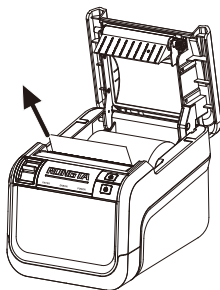

Figure 7
- 3) Pull the paper roll out beyond the tear knife (as shown in Figure 7 below)